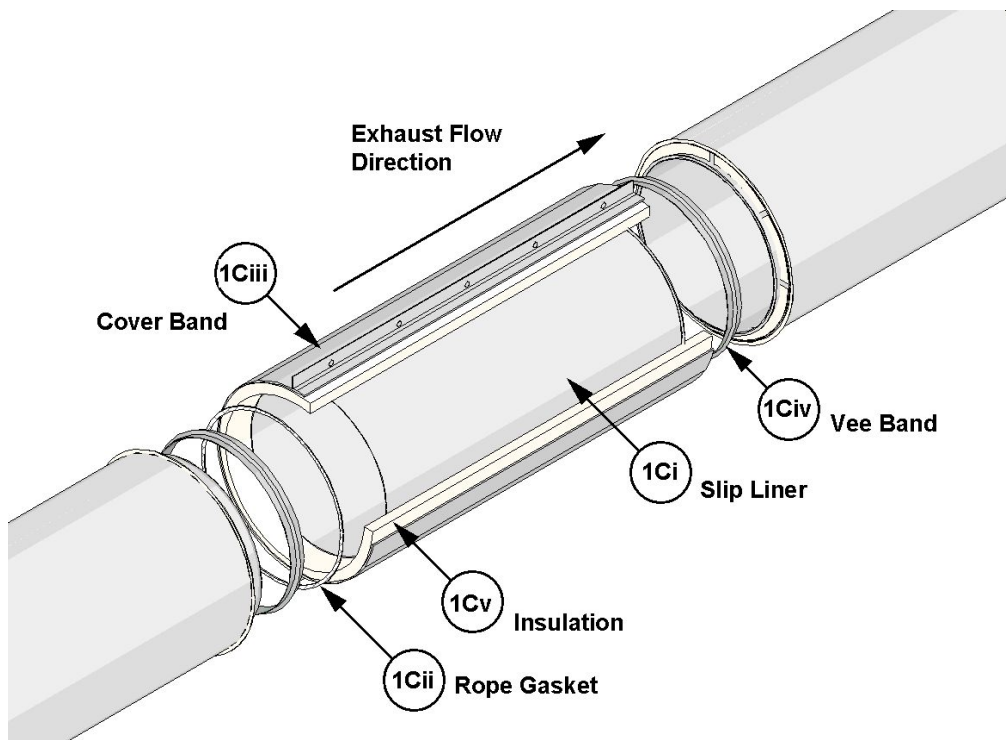

Figure 3. Adjustable Expansion Section – Part ADJ
C. Adjustable Expansion Section (ADJ): Reference Figure 3 below and also Item 2C for joint details. When required, use a ADJ consisting of the following supplied components:
- v. **Insulation:** Use the supplied insulation (Item 1Bv), which is nominal 1 in. thick or 1-1/2 in. thick, and of the same type and density as the insulation used in annular space of the Grease Duct (Item 1). Cut the insulation such that it is compressed a min. of 1 in. between the two adjoining Grease Duct sections. Wrap the insulation three (3) times for nominal 1 in. thick insulation and two (2) times for nominal 1-1/2 in. thick insulation; add a min. 2 in. overlap on the final turn.
C. Adjustable Expansion Section (ADJ) Joints: Reference Figure 3.
- iv. **Insulation:** Use the supplied insulation (Item 1Cv), which is nominal 1 in. thick or 1-1/2 in. thick, and of the same type and density as the insulation used in annular space of the Grease Duct (Item 1). Cut the insulation such that it is compressed a min. of 1 in. between the two adjoining Grease Duct sections. Wrap the insulation three (3) times for nominal 1 in. thick insulation and two (2) times for nominal 1-1/2 in. thick insulation; add a min. 2 in. overlap on the final turn.